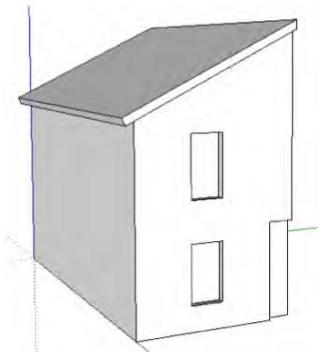

Figure 8–2. Half model of a house
1. The first step is to construct only half the model. The model in Figure 8–2 shows only half a house designed in SketchUp.